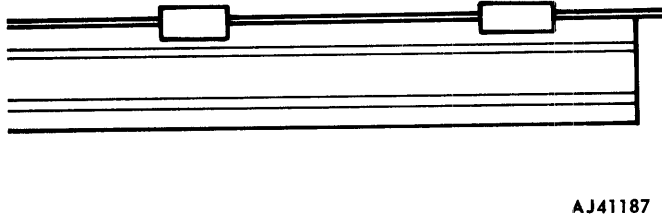

Fig. 20-15 Positioning Decal on Panel
(3) Position the decal on panel and hold in place with small strips of masking tape (fig. 20-15). Be sure decal is aligned with decals on adjacent panels.